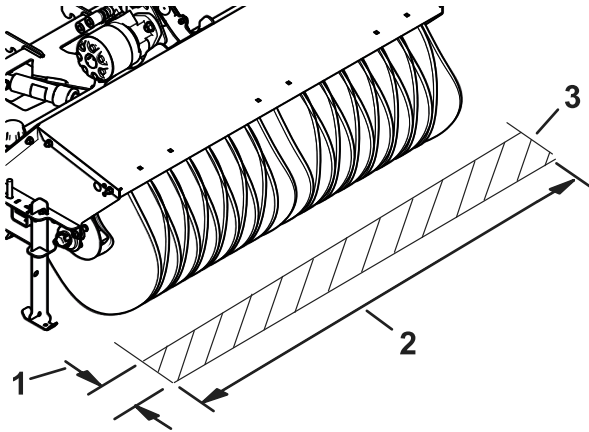

Figure 17
5. Make sure that the area swept equals the length of the broom and a maximum width of 51 to 102 mm (2 to 4 inches) as shown in Figure 17.